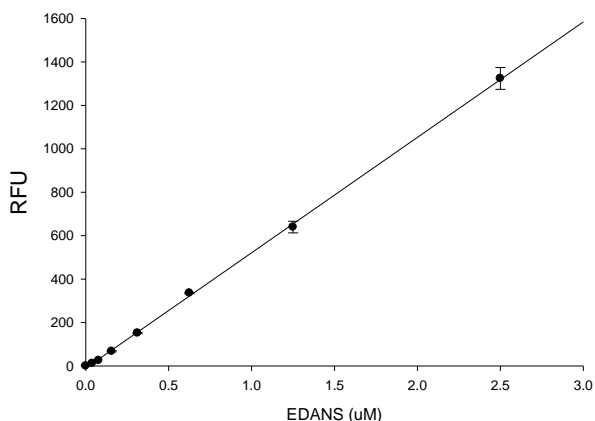

Figure 1. EDANS reference standard calibration curve.
- Plot EDANS fluorescent reference standard as RFU (relative fluorescent unit) versus concentration as in **Figure 1**.